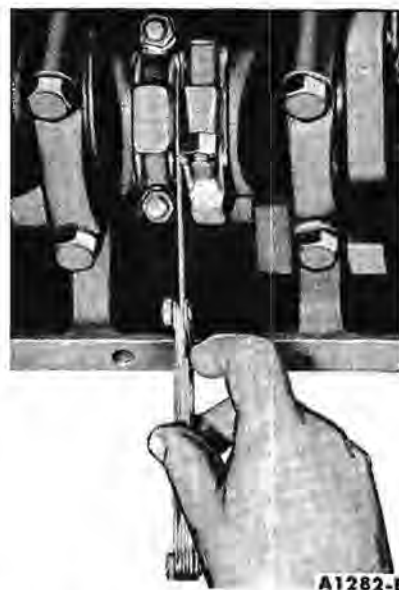

FIG. 44—Connecting Rod Side Clearance
9. After the piston and connecting rod assemblies have been installed, check the side clearance between the connecting rods on each crankshaft journal (Fig. 44).